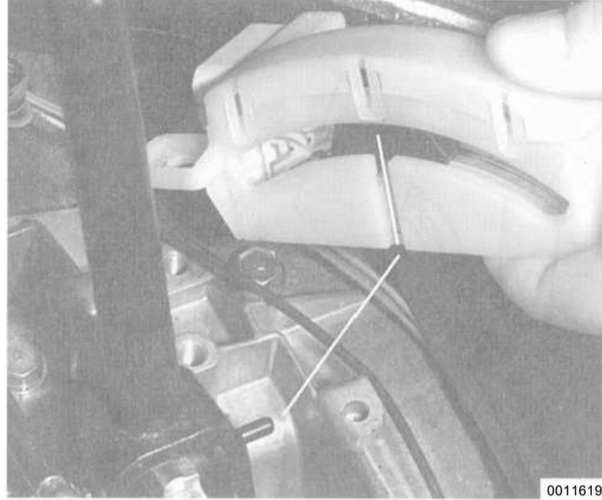

Fig. 9. Align drive gate on switch to pin on lever
5. Remove gear position/neutral safety switch by aligning drive slot with drive pin on lever. See Fig. 9.